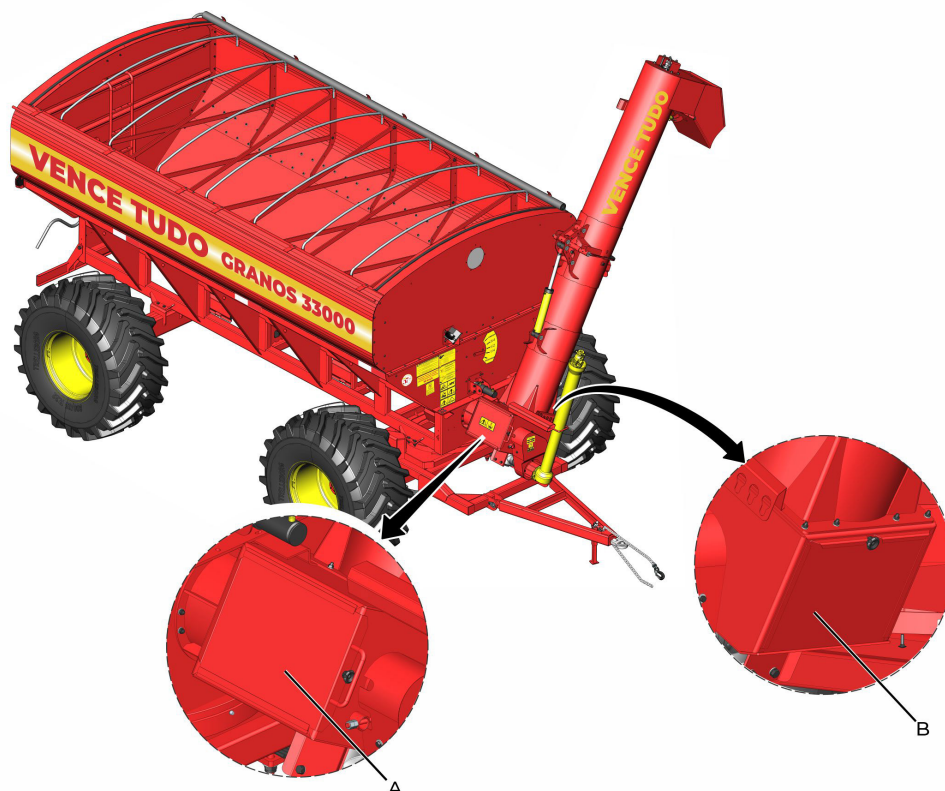

fig. 16
As an aid, the lower penstock of the pipe (B) can be released, according to figure 16, activating the sweeping helicoids through the power outlet, maintaining the rotation lower (max. 400rpm).
Located at the bottom of the discharge pipe, there are two manual penstocks, one upper (A) (fig.16) and one lower (B) (fig.16), which can only be opened when maintenance or cleaning is required. otherwise, the penstock must remain completely closed in order to prevent the escape of grains when the discharge tube is activated.